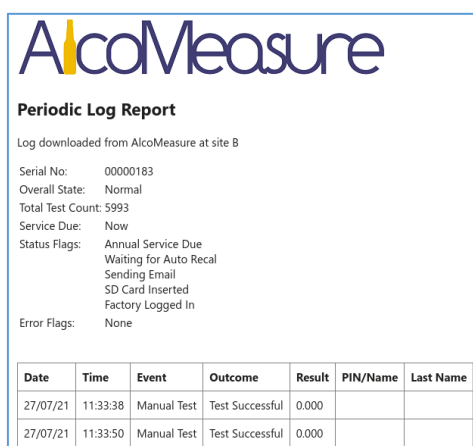

Figure 33 - Log Email
- The log can be embedded in the email as a HTML table, as shown in Figure 33.